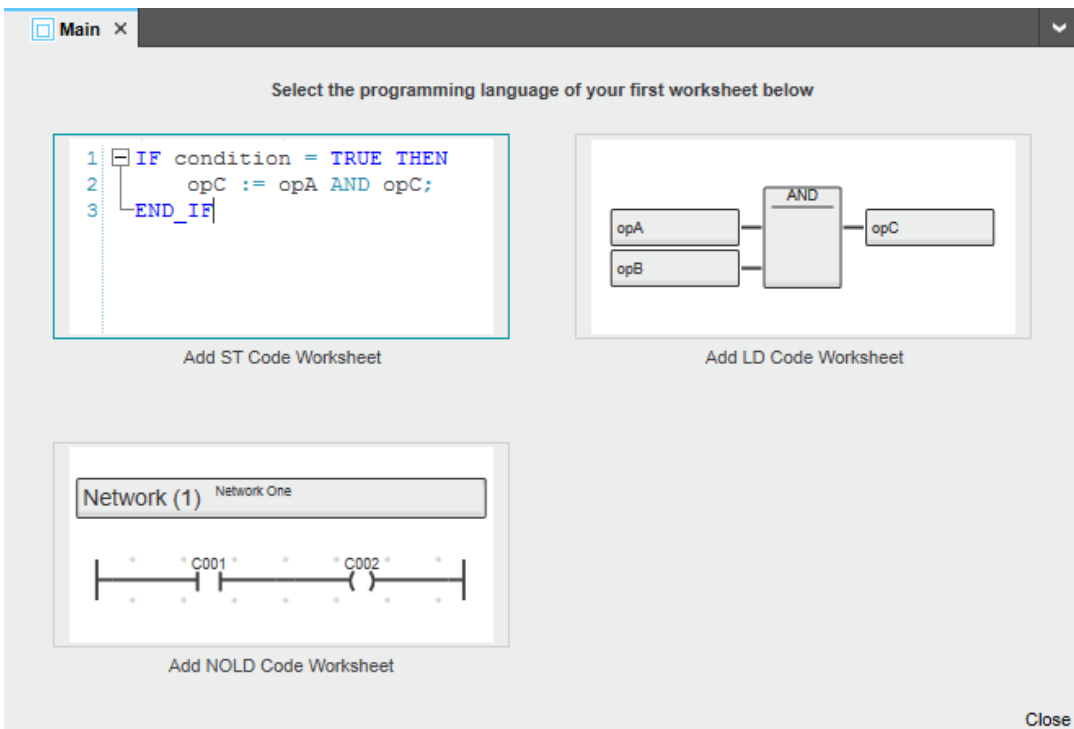

Figure 10 Selecting the programming language for the first worksheet
- Double-click on the desired POU – in the example in Figure 10: “Main”.